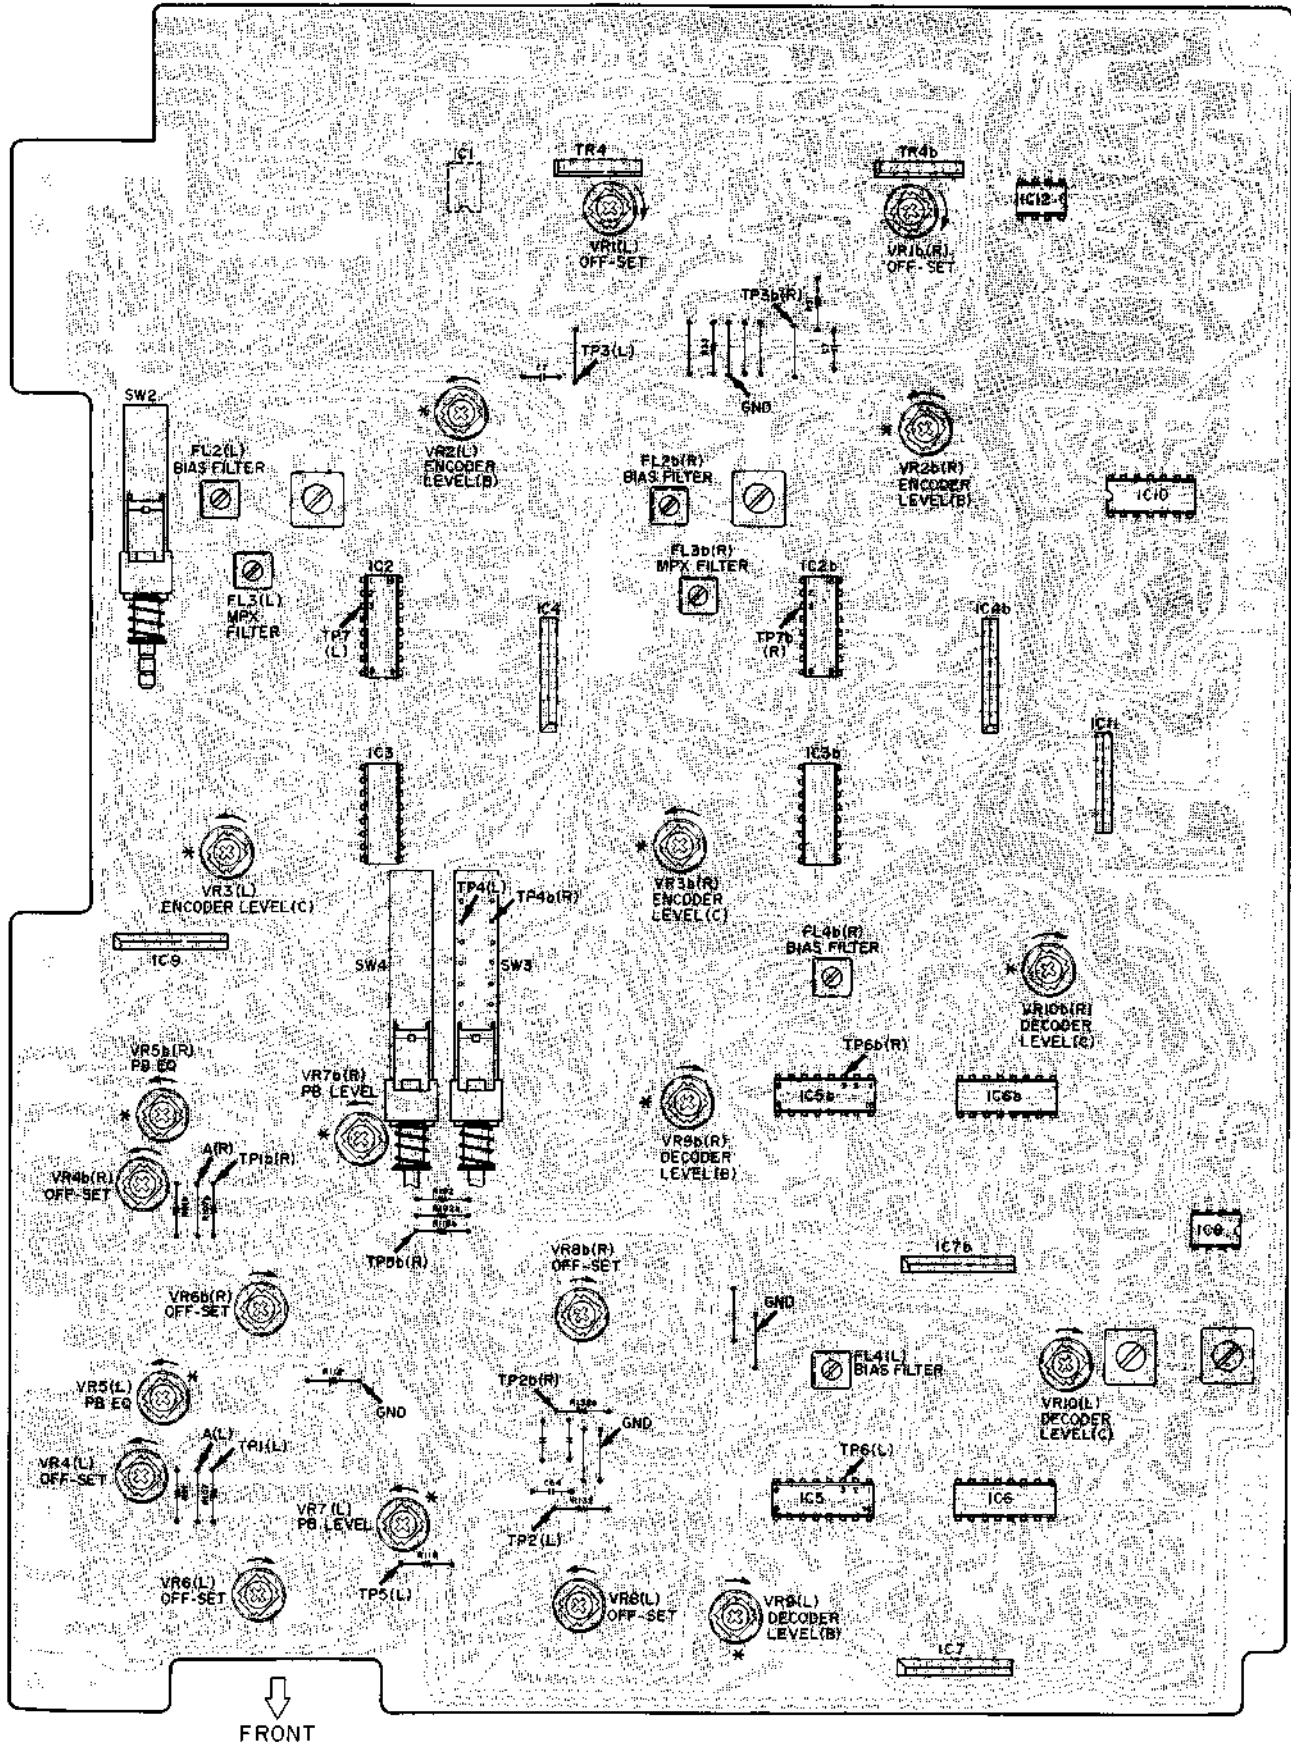

Fig. 2-16 Pre Amp PCB (Parts Side View)
1. PB DIFFERENTIAL AMPLIFIER OFF-SET VOLTAGE ADJUSTMENT (Fig. 2-16)
2. PB EQ AMP ADJUSTMENT (Fig. 2-16)
(Fig. 2-16)
(Figs. 2-16, 17)